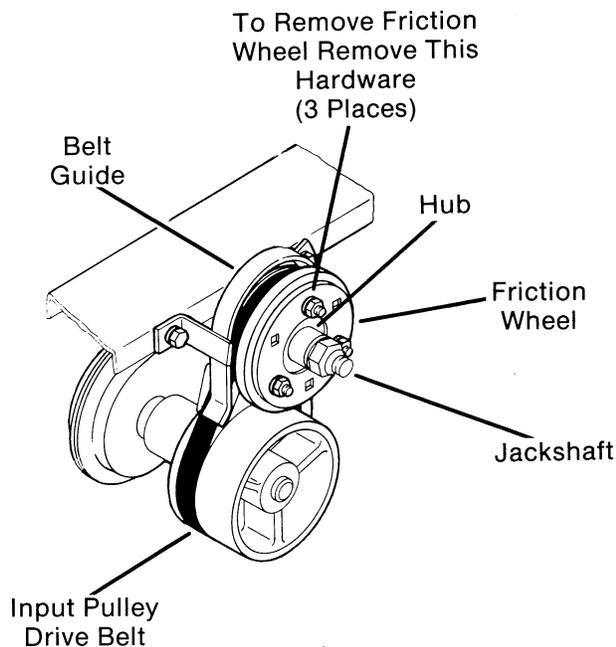

FIG. 12
- B. Remove friction wheel by holding nut on end of jackshaft and remove the three nut and bolt assemblies holding it to hub assembly. (Fig. 12)
- C. Remove belt guide by removing two capscrews securing it. (Fig. 12)
- C. Remove friction wheel by removing three carriage bolts and nuts retaining wheel to hub assembly. (Fig. 12)
- D. Remove belt guide by removing the two capscrews. (Fig. 12)